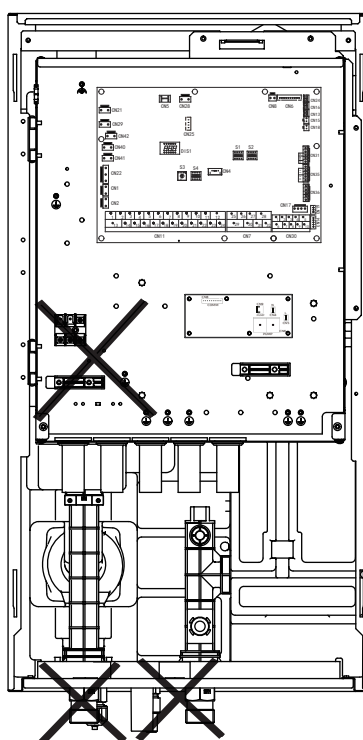

Fig.4-3
- The space around the unit is adequate for servicing, see figure 4-3.